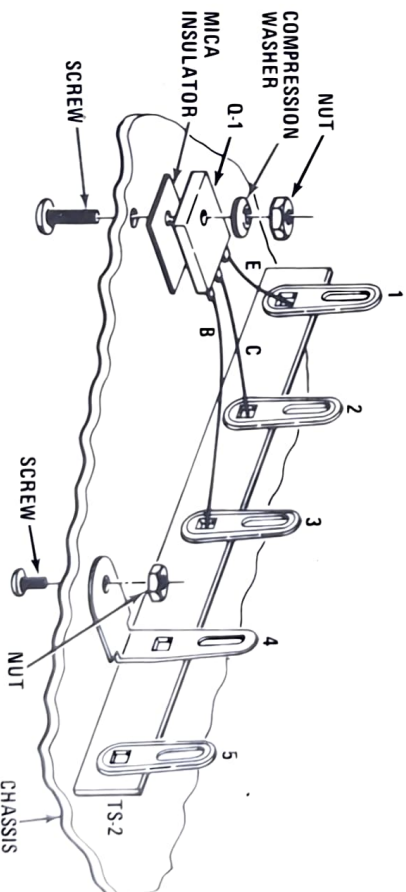

FIGURE 2
- Mount the Transistor (Q-1) as shown in Figure 2 — with the leads going into the **lower holes** of TS-2 terminals 1, 2, and 3: